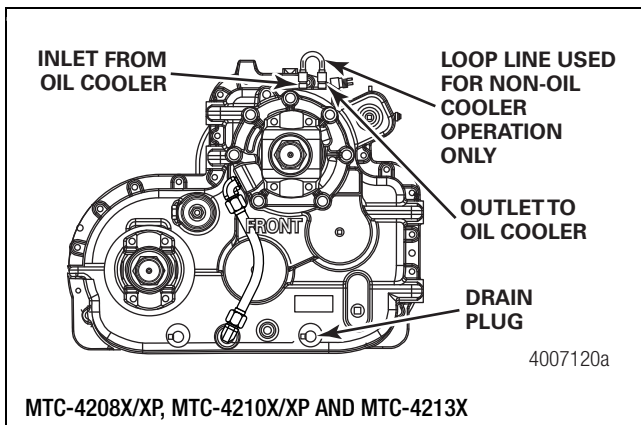
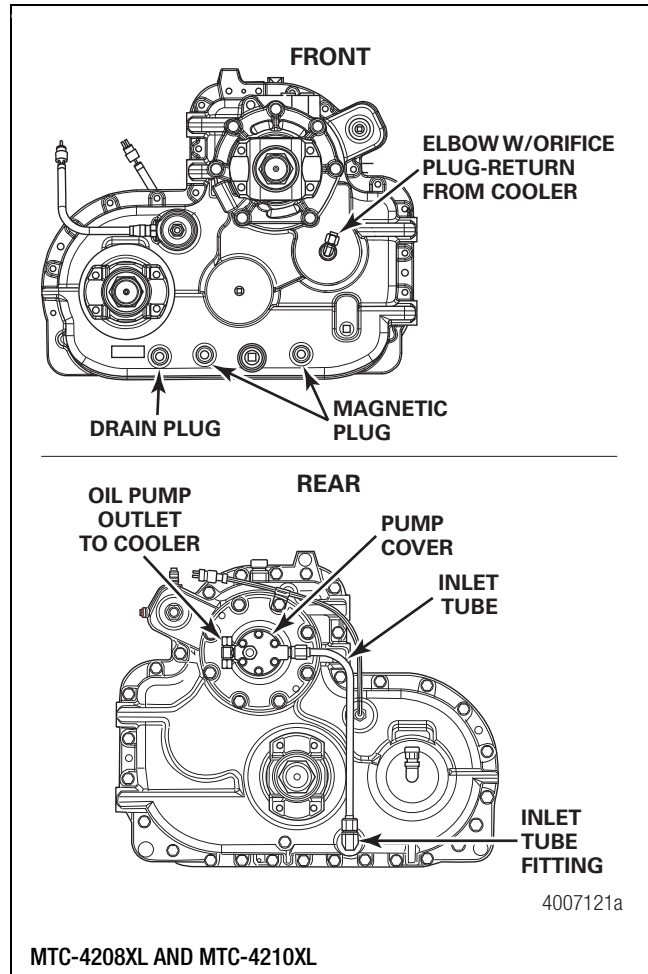
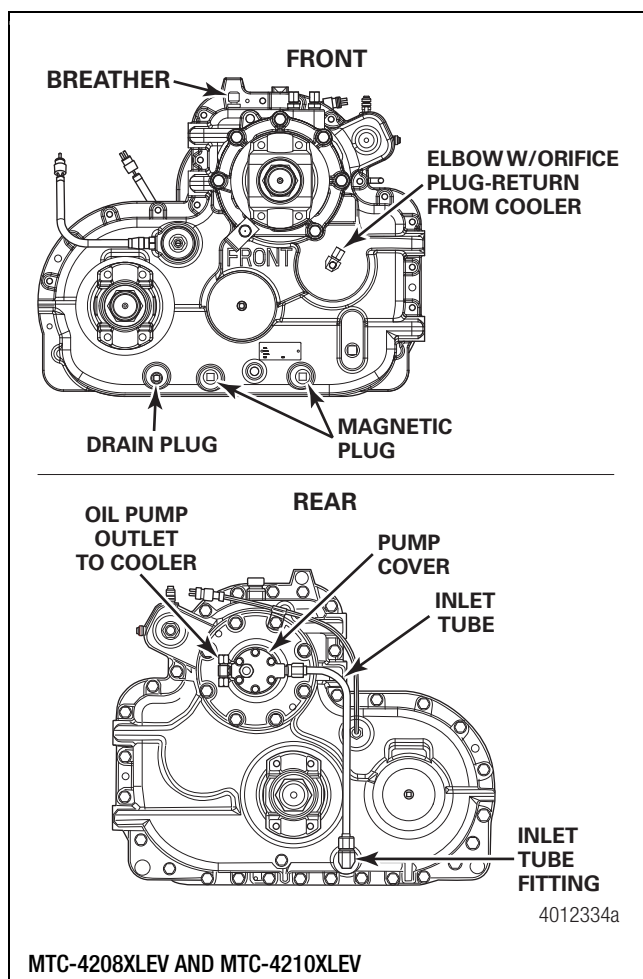

Figure 3.1
Figure 3.2
Figure 3.3
5. Remove the magnetic drain plug from the bottom of the transfer case. Drain and discard the oil correctly. Clean the magnetic drain plug. Figure 3.1, Figure 3.2 and Figure 3.3.
7. Disconnect the cooler lines. Figure 3.1, Figure 3.2 and Figure 3.3.